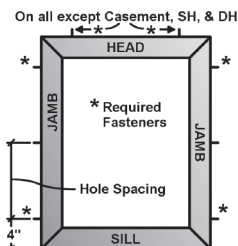

Figure 1
3. Drill using a 1/8" to 3/8" step drill through the jamb at 4" from the head and another hole at 4" from the sill on each jamb as shown in Figure 1. Reference * marks in Figure 1 to determine which screw locations are required.
4. If you have a side-by-side combination window assembly, you must fasten additional screws in the head 4" on each side of the mullion and 4" from each jamb (see Figure 1).
5. For positions of remaining required installation holes, see Figure 1 and Chart A.